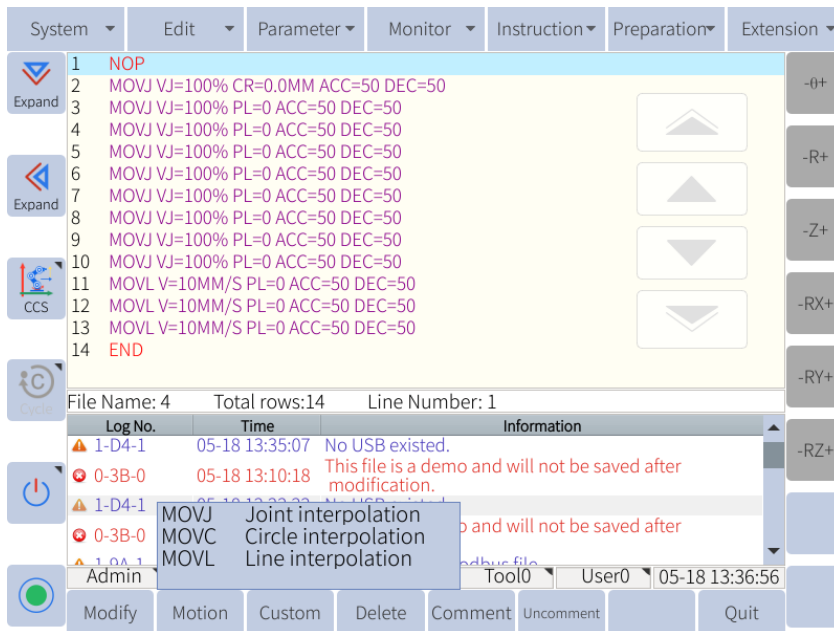

Figure 6-65 : Selecting the move instruction
4. Click ”Motion” in the submenu bar, as shown in **Figure 6-65** , or select **Instruction -> Move-Instruction**, and select the desire move method on the drop down menu.